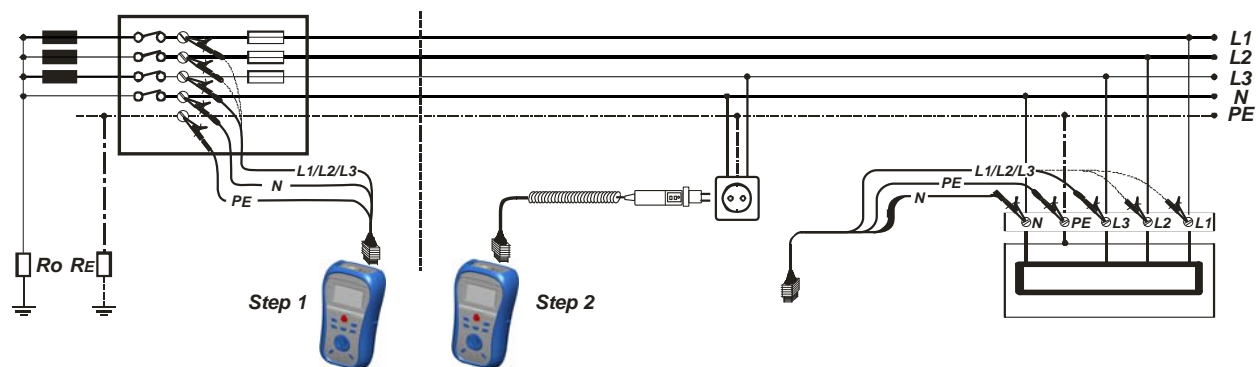

Figure 5.35: Phase-neutral or phase-phase voltage drop measurement – connection of plug cable and 3-wire test lead
- **Connect** the test leads to the origin of electrical installation (see figure 5.35).
- **Connect** the test leads to the tested points (see figure 5.35).